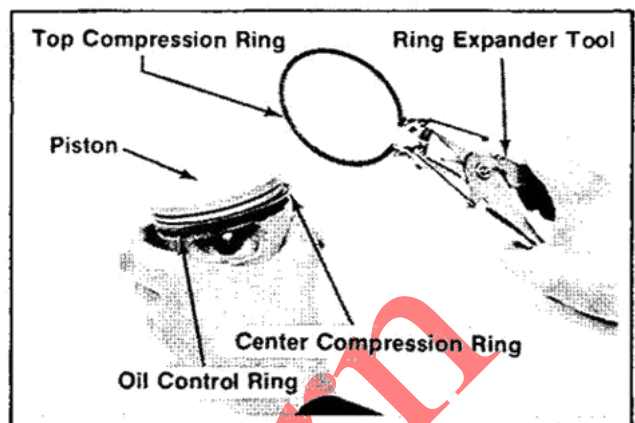

Figure 9-32. Removing Piston Rings.
1. Remove the top and center compression rings using a ring expander tool. Refer to Figure 9-32.